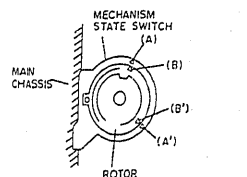

Fig. 3-1
2. PHASE MATCHING IN ASSEMBLY (Figs. 3-1, 3-2, 3-3)
- Align marks (A) and (A') on the mechanism state switch and marks (B) and (B') on the rotor. (See Fig. 3-1)